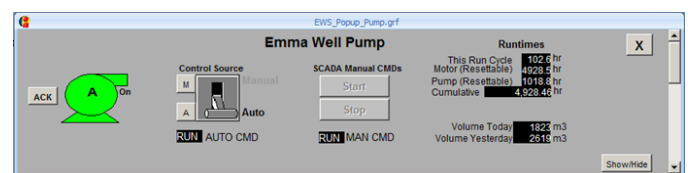

Figure 17 – Well Pump Pop-Up Device Control Window
As part of the Guelph Water SCADA programming templates, a set of standardized pop-up templates has been developed to support the overall control strategy of: control schemes, permissives, interlocks, and alarms when it comes to devices. This can be seen in the default view “rolled-up version” of the well pump device pop-up window in Figure 17.
**SCADA Manual Start/Stop Buttons:** When the pump is in SCADA-Manual mode, “Start” and “Stop” buttons are made available for the operator to manually start and stop the pump. They too have confirmation dialog boxes. When the pump is in Auto or Local mode, the Start/Stop buttons are greyed out. In figures 17 and 18, the start and stop buttons are shown as greyed-out because the pump is in SCADA-Auto mode.